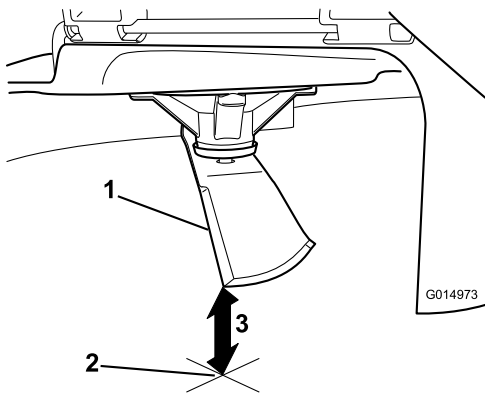

Figure 57
3. Measure from the tip of the blade to the flat surface (Figure 57).